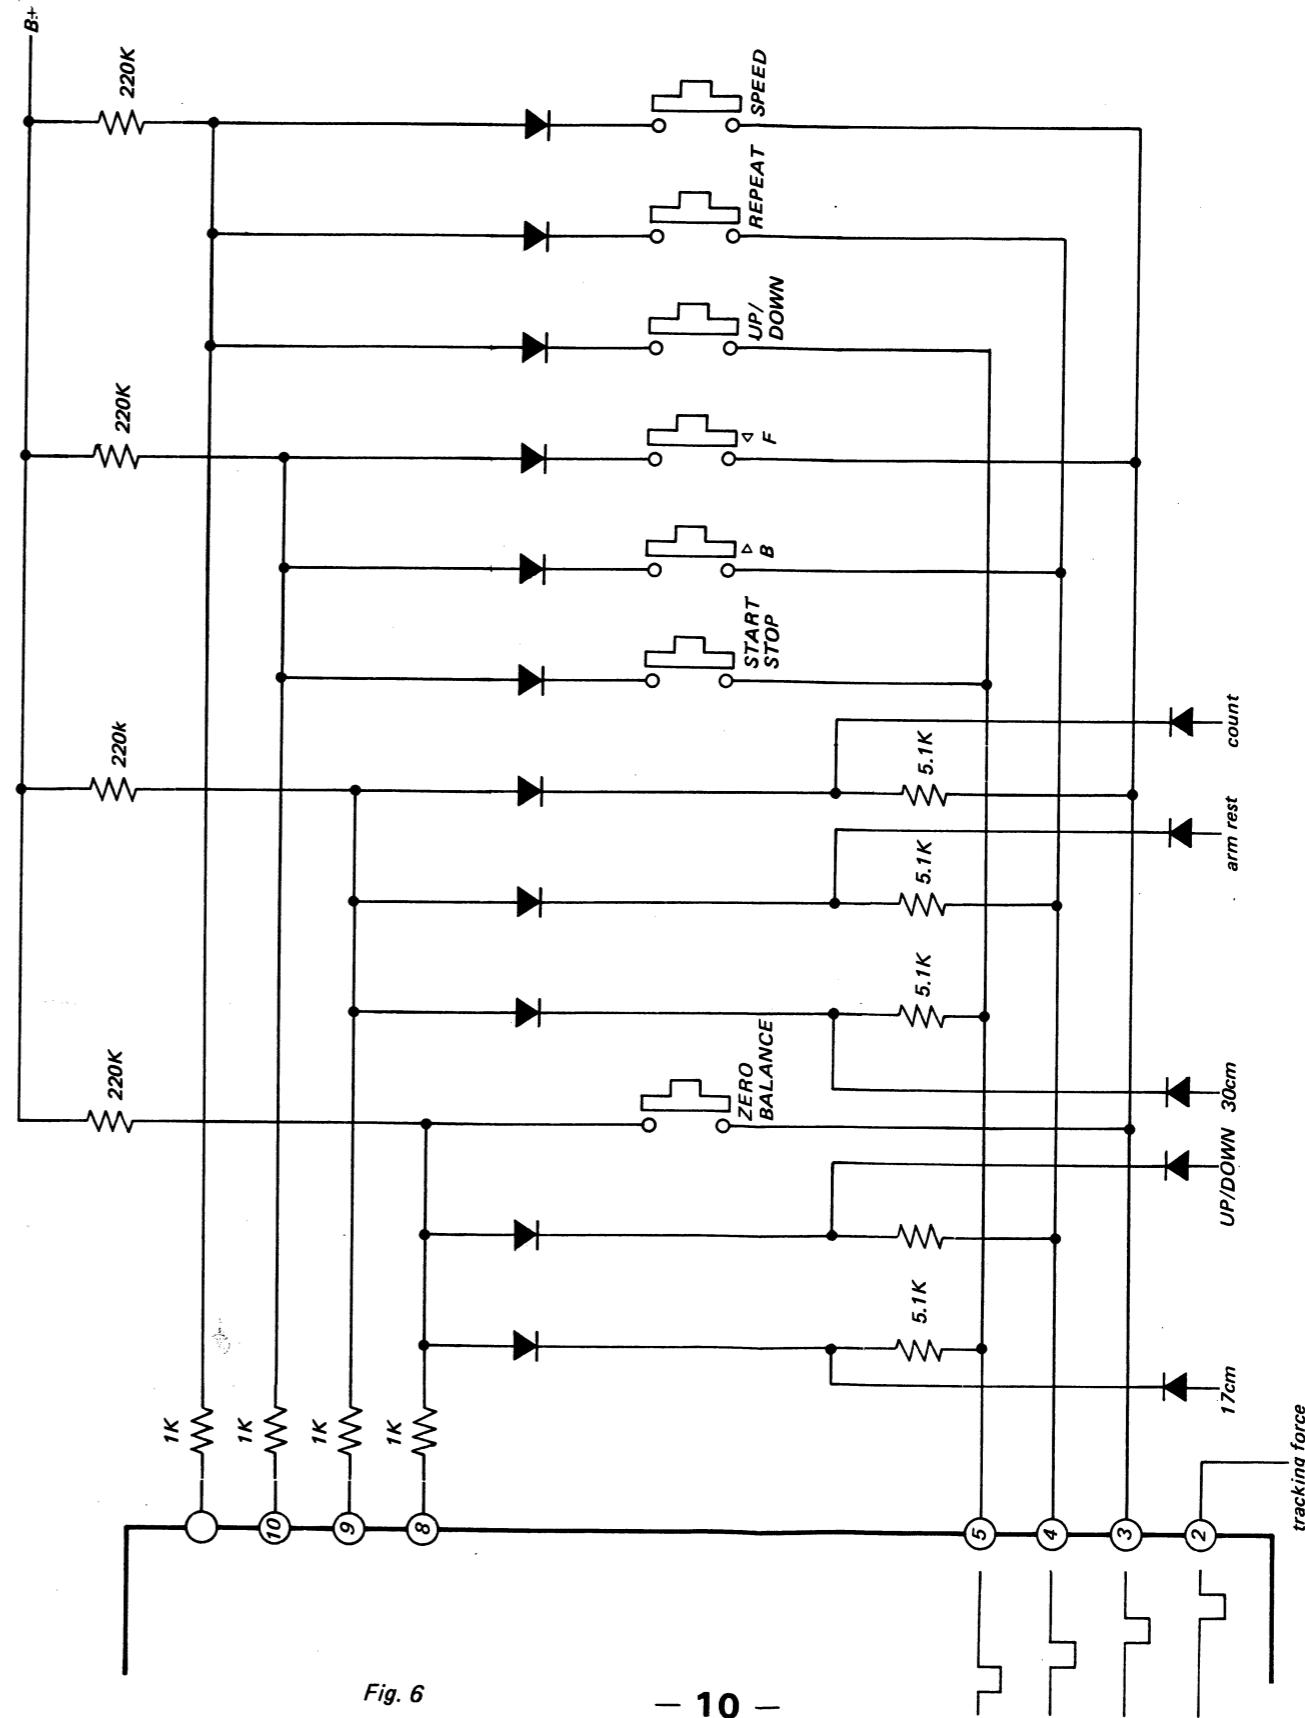

Fig. 6
Figure 6 sl
Figure 6 shows part of the key input circuit. (2) – (5) are input pins. When pins (2) – (5) are made low in order, the microcomputer program controls the state depending on the state of pins (8) – (11).